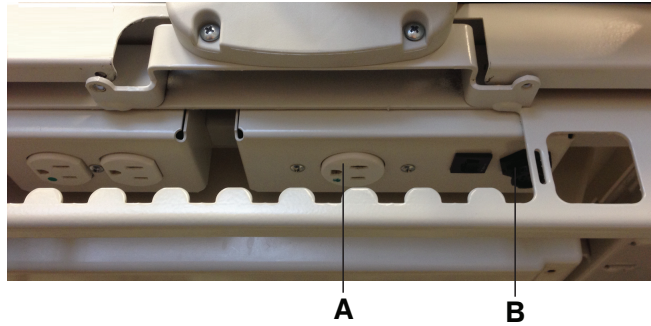

Figure 40 – Auxiliary mattress connector outlet
2. Connect the integration cable from the support surface to the auxiliary mattress connector (B) (Figure 40).
3. Plug the support surface power cord into the auxiliary mattress connector outlet (A).